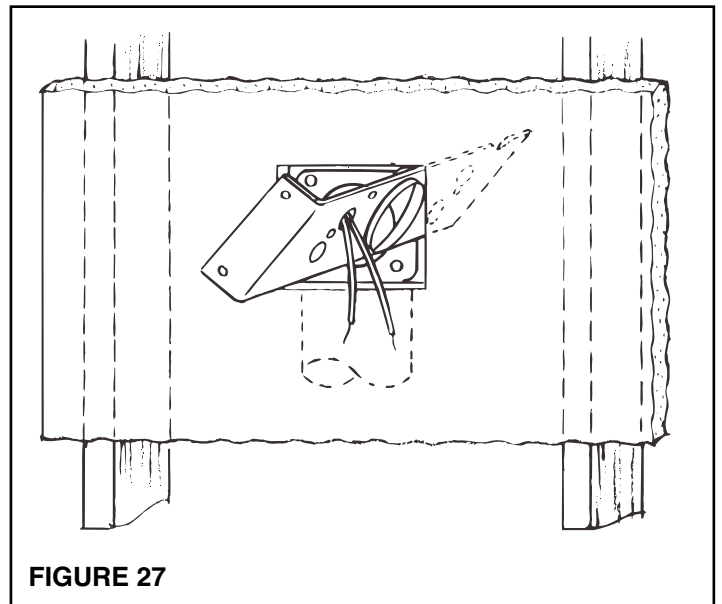

FIGURE 27
8. Remove plaster frame from mounting bracket. Pull low voltage wire through hole in bracket and insert bracket into cutout. Secure bracket to flanged fitting with four screws provided. Be sure seal is secure between flange fitting and mounting bracket (Figure 27).